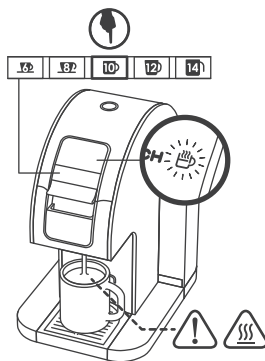

Fig. 5
**CAUTION:** Extremely Hot Water! (Fig. 5)
8. With the cover closed, press the 10 oz Button to start the brewing cycle. (Fig. 5) The brewing indicating light on the upper right corner will stay ON while the brewer is warming up. Note that the brewer will pump the water to the Water Tank while warming up. This is normal and it may take up to 30 seconds to warm up from a cold start. The brewing indicating light will start to blink when the brewing cycle starts.